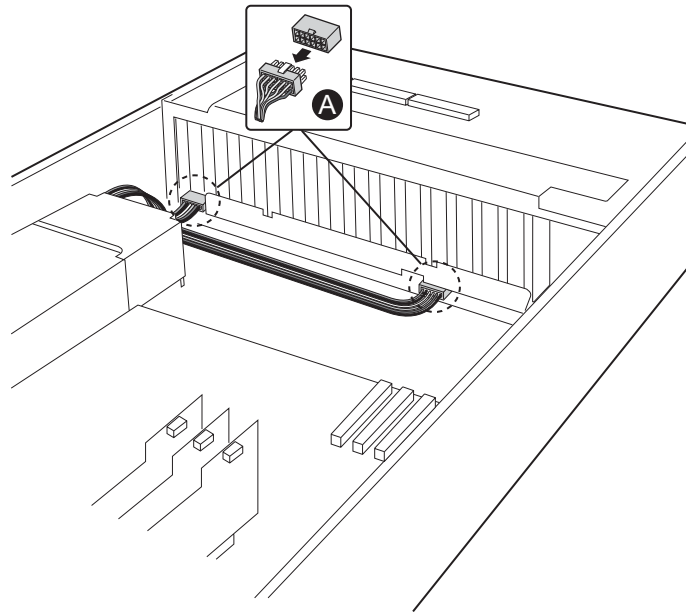

Figure 8. Removing the Power Distribution Board Module Connectors
- A. Carefully remove the two 12-pin Power Distribution Board Module connectors from the backplane board. See Figure 8.